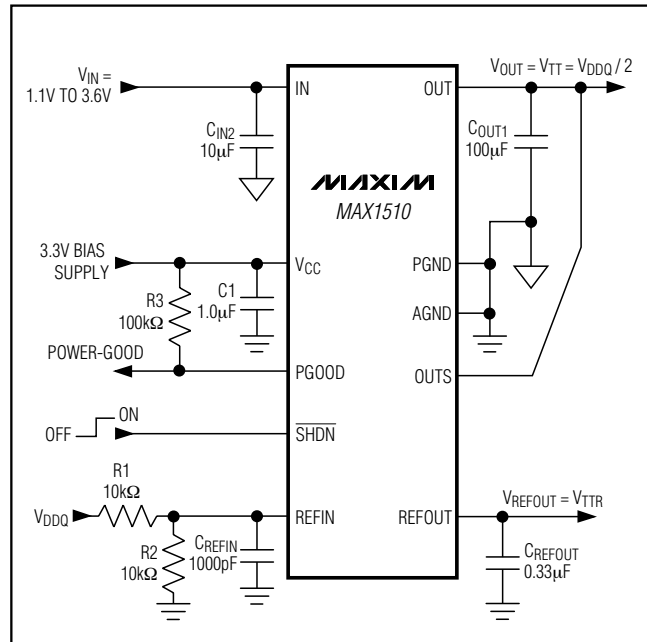

Figure 1. Standard Application Circuit
( $V_{IN} = 1.8\text{V}$ ,  $V_{CC} = 3.3\text{V}$ ,  $V_{REFIN} = V_{OUTS} = 1.25\text{V}$ ,  $\overline{\text{SHDN}} = V_{CC}$ , circuit of Figure 1,  $T_A = -40^\circ\text{C}$  to  $+85^\circ\text{C}$ , unless otherwise noted. Typical values are at  $T_A = +25^\circ\text{C}$ .) (Note 1)
( $V_{IN} = 1.8V$ ,  $V_{CC} = 3.3V$ ,  $V_{REFIN} = V_{OUTS} = 1.25V$ ,  $\overline{SHDN} = V_{CC}$ , circuit of Figure 1,  $T_A = -40^{\circ}C$  to  $+85^{\circ}C$ , unless otherwise noted. Typical values are at  $T_A = +25^{\circ}C$ .) (Note 1)
(Circuit of Figure 1.  $T_A = +25^\circ\text{C}$ , unless otherwise noted)
The MAX1510 is a low-voltage, low-dropout DDR termination linear regulator with an external bias supply input and a buffered reference output (see Figures 1 and 2). VCC is powered by a 2.7V to 3.6V supply that is commonly available in laptop and desktop computers. The 3.3V bias supply drives the gate of the internal pass transistor, while a lower voltage input at the drain of the transistor (IN) is regulated to provide VOUT. By using separate bias and power inputs, the MAX1510 can drive an n-channel high-side MOSFET and use a lower input voltage to provide better efficiency.
The MAX1510 regulates OUTS to the voltage set at REFIN, making the MAX1510 ideal for memory applications where the termination supply must track the supply voltage. Typically, REFIN is set by an external resistive voltage-divider connected to the memory supply (VDDQ) as shown in Figure 1.